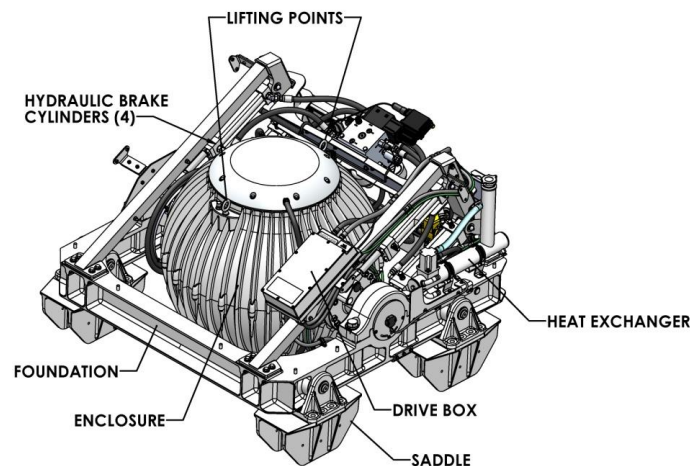

FIGURE 1 – SEAKEEPER 26
- While handling / installing the Seakeeper assembly, protect exposed hydraulic brake cylinder rods (See Figure 1) from scratches or damage as this could lead to premature seal failure and oil leaks.